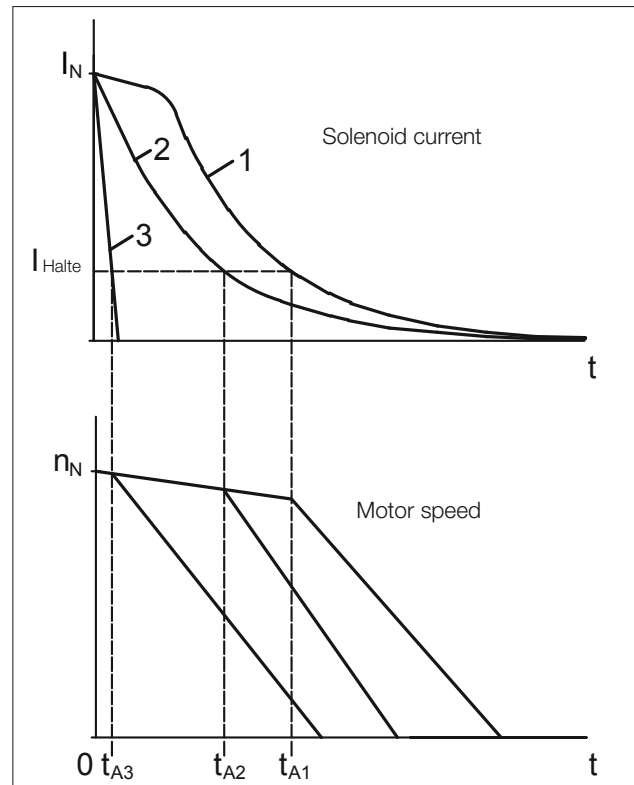

Figure 4 Idealized coil current and motor speed curves after switching off power on the AC side (1 and 2) or DC side (3)
- a) Rectifier powered from the motor terminal board (Figure 4, curve 1)
- b) Rectifier powered separately (Figure 4, curve 2)
### Interrupting the DC circuit of the electromagnet coil (Figure 4, curve 3)